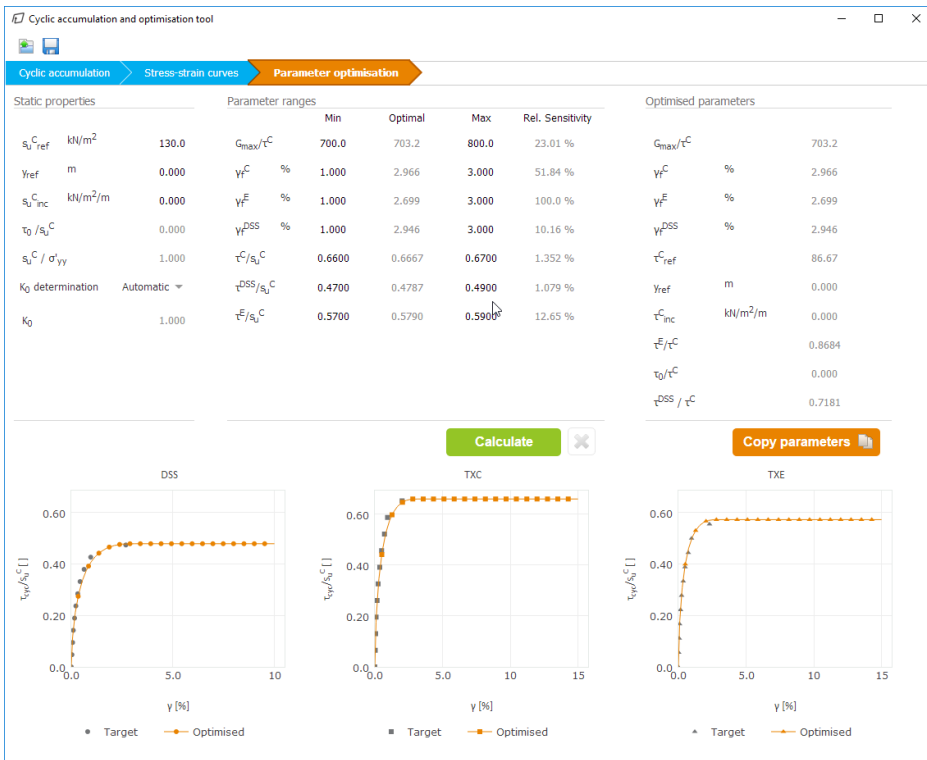

Figure 8.11 Optimised parameters for cyclic load
- Click *Calculate* to get the optimised parameters. The optimised parameters are shown in Figure 8.11 and listed in the column 'Optimised value' in Table 8.4.